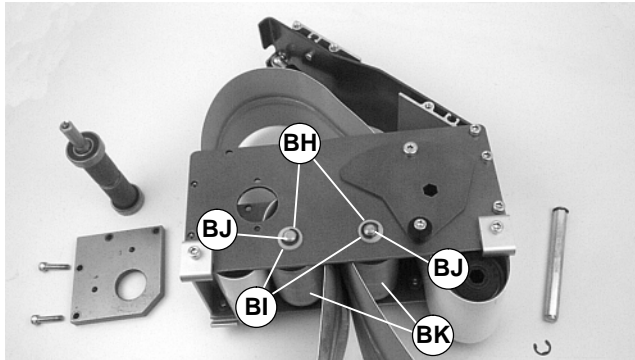

Figure 44
- For 44 mm, 70 mm or 95 mm wide conveyor, detach E-ring clips (BH of Figure 44). Remove washers (BI). Remove pulley shafts (BJ) and pulleys (BK).